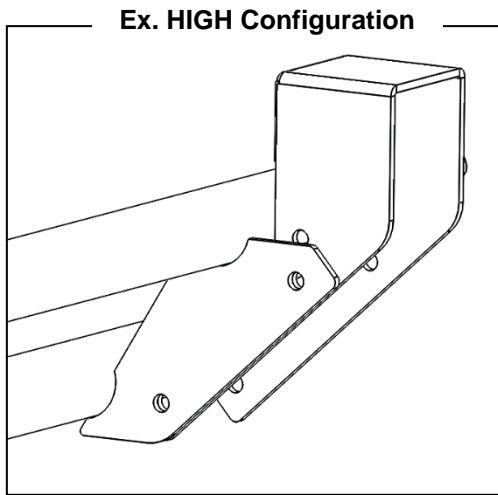
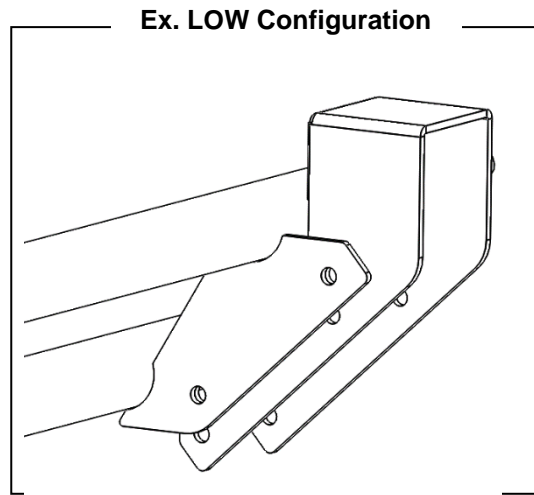
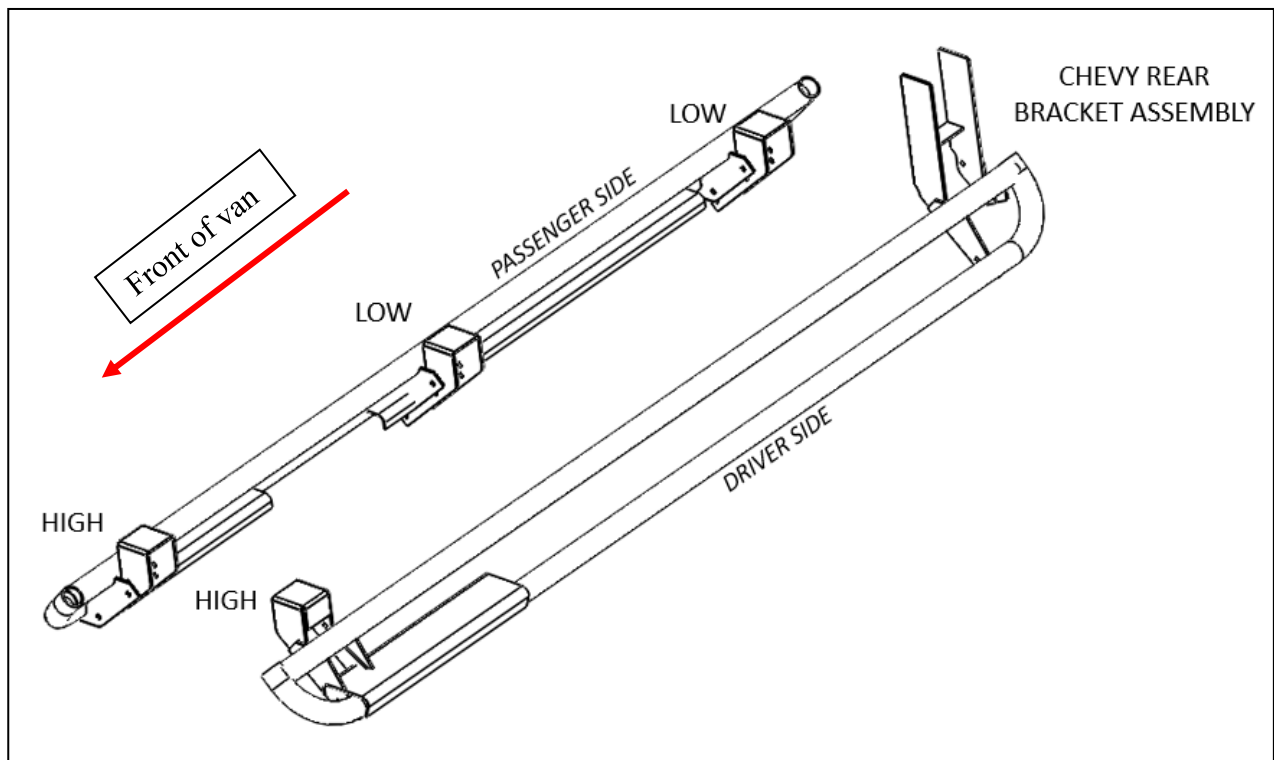

Figure 2
Figure 1
Figure 3
1. Assemble the nerf bar brackets into the correct orientations shown in Figure 3, take note of which brackets are labeled "high" or "low". Please reference Figure 2 for the high configuration, and Figure 1 for the low configuration. The passenger side and driver side nerf bars will assemble differently, be sure to note the differences outlined in Figure 3.